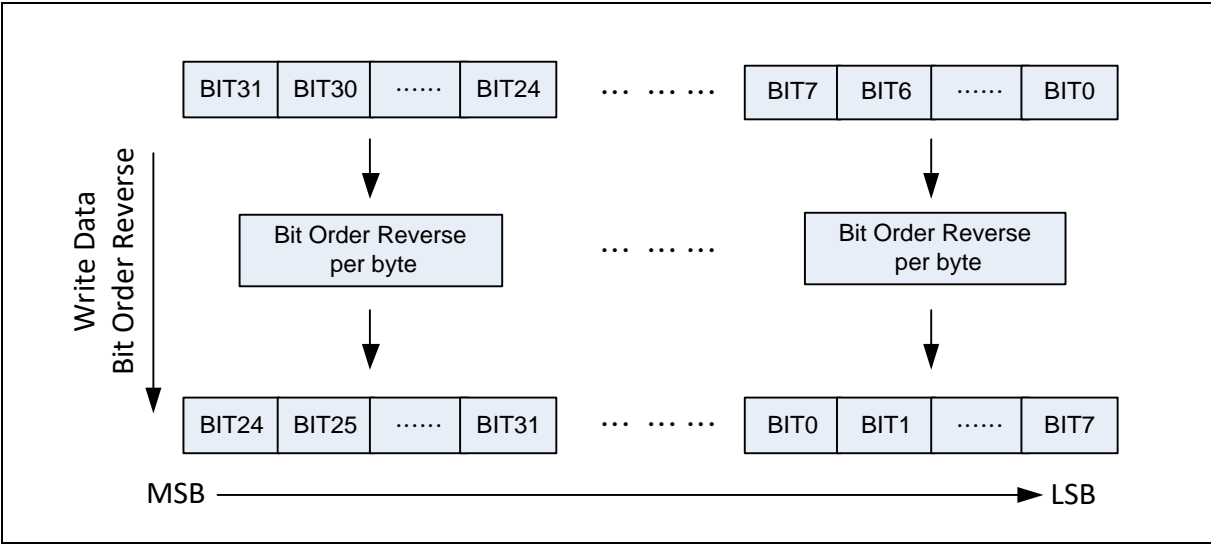

Figure 6.17-3 Write Data Bit Order Reverse Functional Block
- 4) Configure bit order reverse for CRC write data per byte by setting DATREV (CRC\_CTL[24] Write Data Bit Order Reverse). The functional block is also shown in Figure 6.17-3.